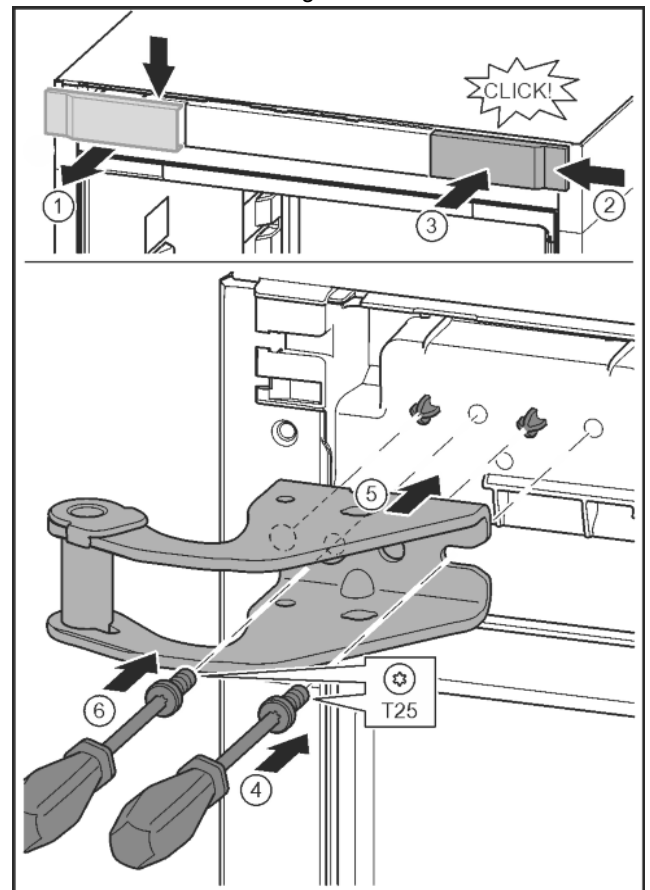

Fig. 10
- ▶ Undo the cover with a screwdriver and remove sideways. Fig. 10 (1)
- ▶ Rotate the cover 180° and clip onto the other side from the right. Fig. 10 (2)
- ▶ Click the cover into place. Fig. 10 (3)
- ▶ Position the screw with a T25 screwdriver. Fig. 10 (4)
- ▶ Position the upper bearing bracket. Fig. 10 (5)
- ▶ Tighten the screw. Fig. 10 (4)
- ▶ Insert the screw with a T25 screwdriver and tighten. Fig. 10 (6)